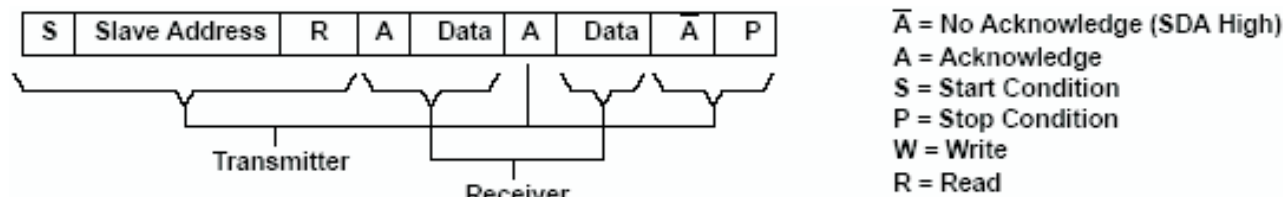
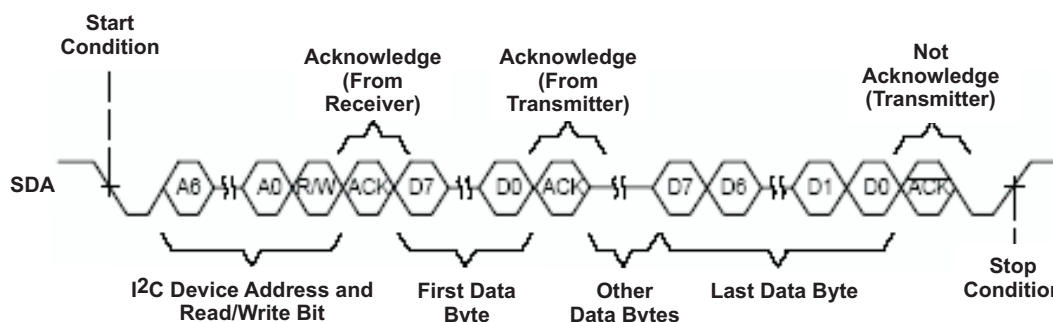

Figure 35. I²C Read Cycle
Figure 36. Multiple Byte Read Transfer
address. Following this initial acknowledge by the slave, the master device becomes a receiver and acknowledges data bytes sent by the slave. When the master has received all of the requested data bytes from the slave, the not acknowledge (A) condition is initiated by the master by keeping the SDA signal high just before it asserts the stop (P) condition. This sequence terminates a read cycle as shown in Figure 35 and Figure 36. See **Example – Reading from the SN75DP122** section for more information.
The SN75DP122 operates using a multiple byte transfer protocol similar to Figure 36. The internal memory of the SN75DP122 contains the phrase *DP-HDMI ADAPTOR<EOT>* converted to ASCII characters. The internal memory address registers and the value of each can be found in Table 3.